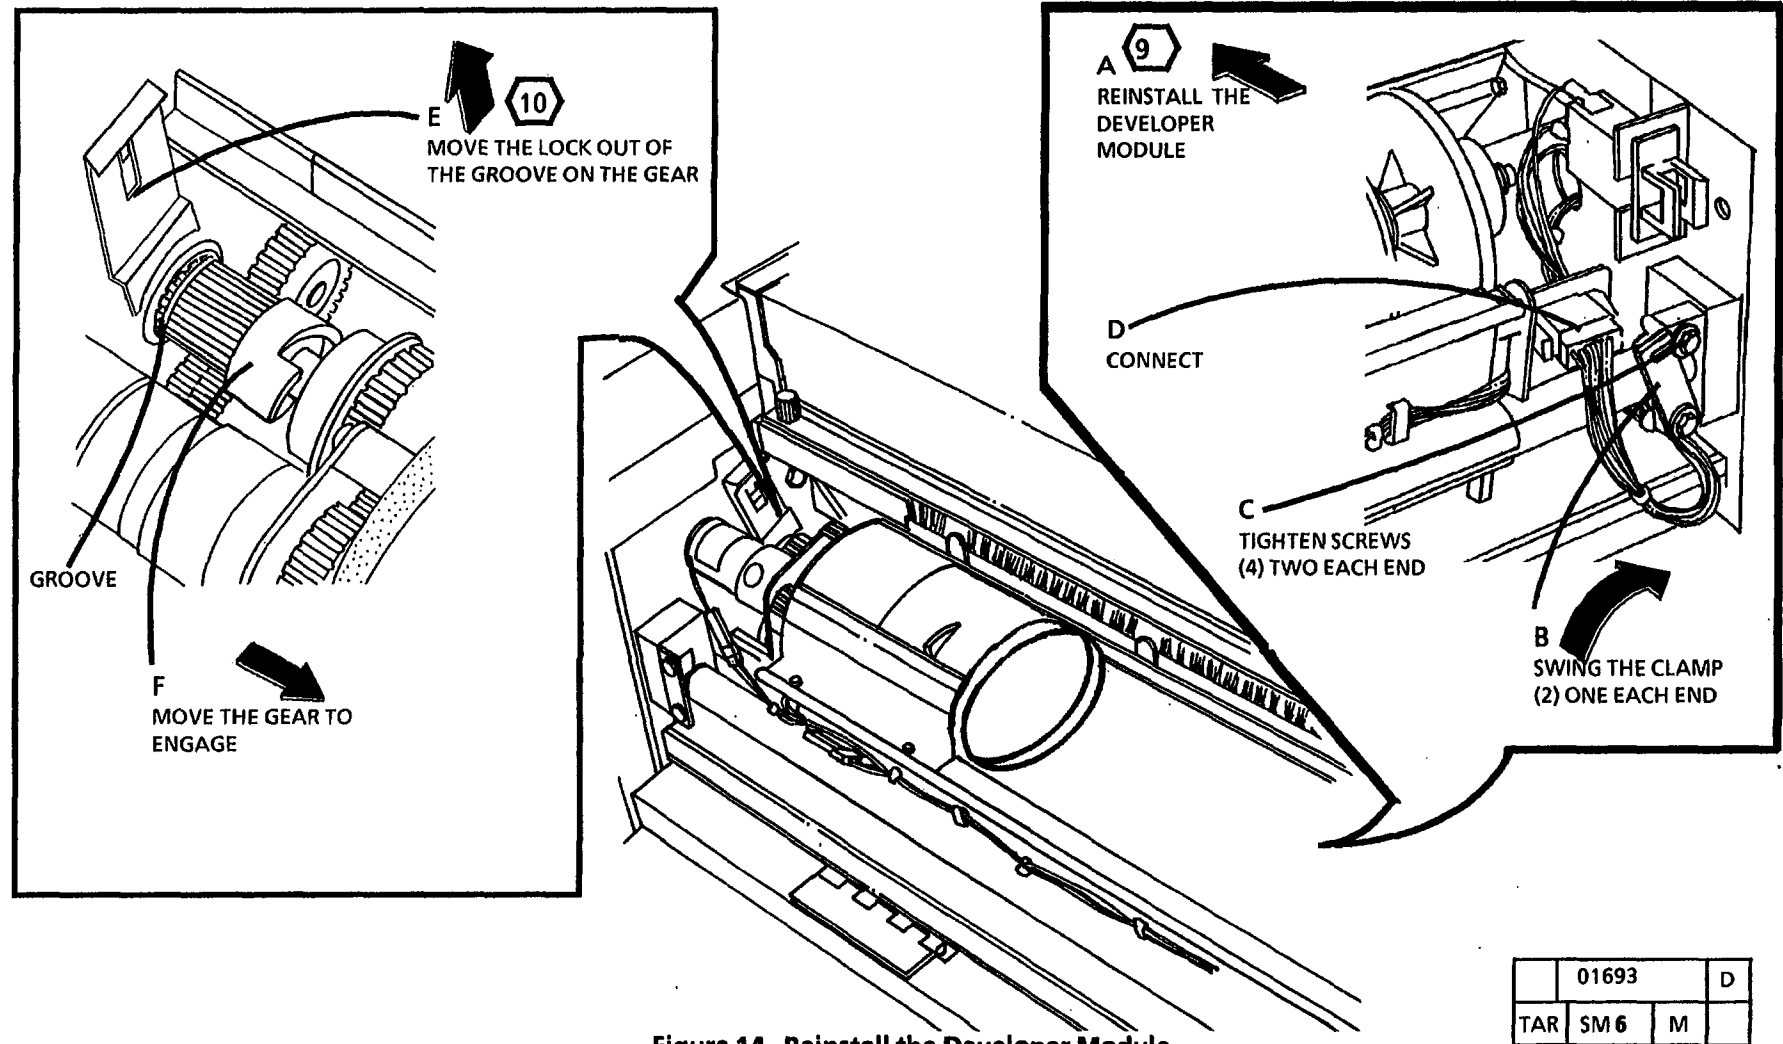

Figure 14. Reinstall the Developer Module
21. (Figure 14): Reinstall the Developer Module.